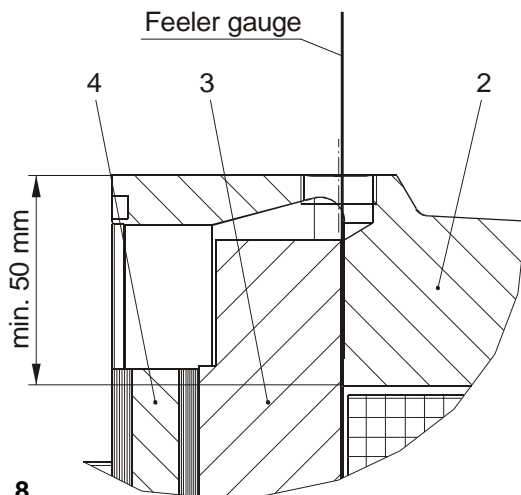

Fig. 8
The air gap can be checked using the feeler gauge, which must be inserted at least 50 mm deep (see Fig. 8), so that the distance between the armature disk (3) and the coil carrier (2) is measured.